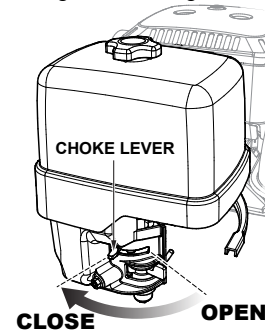

Figure 16. Engine Choke Lever (Closed)
4. Place the choke lever (Figure 16) in the **“CLOSED”** position if starting a cold engine.